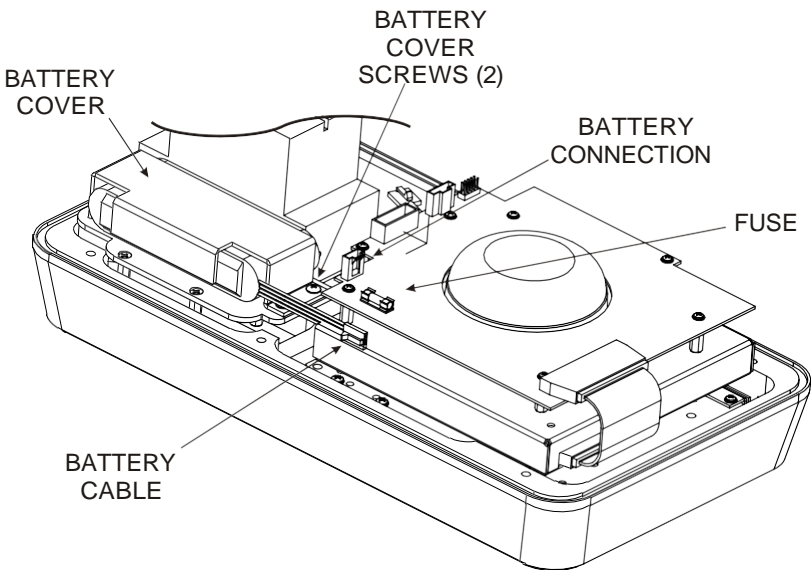

Figure C-10. Replacing NiMH Battery Pack or Fuse
- ✓ Unplug the battery cable from the battery connection on the top circuit board (see Figure C-10). Gently squeeze the connector to disconnect.
- ✓ Locate the fuse, which is located on the top circuit board (see Figure C-10).